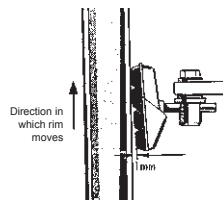

Fig. 2
- The brake cover should rest 1 mm below the top edge of the rim and be assembled at a slight angle to the rim (refer to Fig. 2).